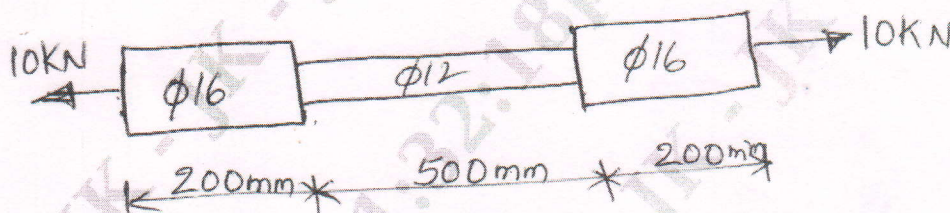

Fig. Q10 (b)
- b. The bar with circular cross section shown in Fig. Q10 (b) is subjected to a load of 10 kN. Determine the strain energy stored in it. Take $E = 2.1 \times 10^5 \text{ N/mm}^2$ (10 Marks)